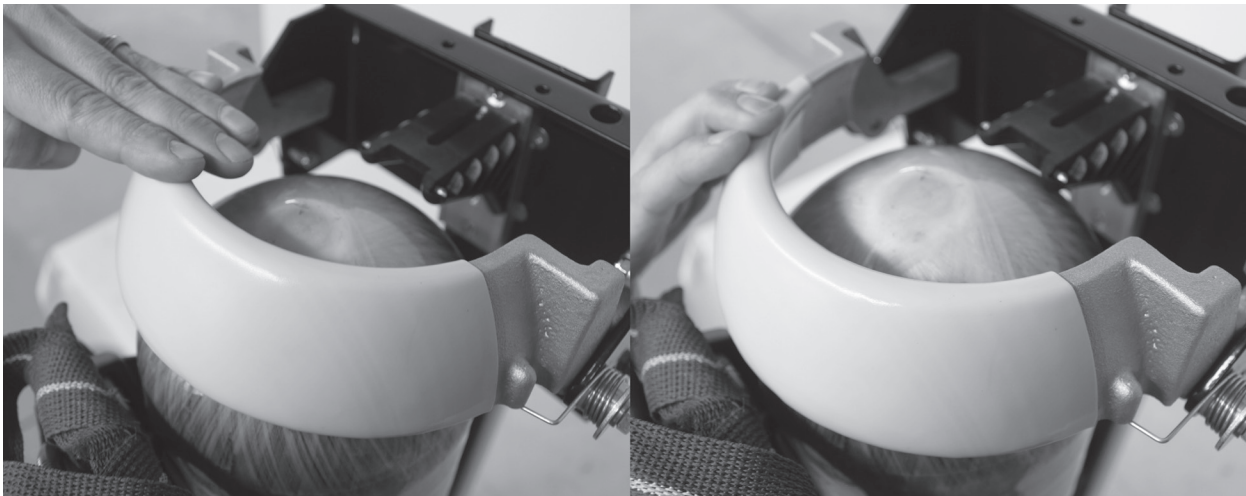

Figure 6
12. Press rearward on the Serrated Latch Stop Pin to open the Top Clamp. Place the air cylinder valve in the Footplate and move the SCBA into the bracket, closing the Top Clamp as the top of the air cylinder passes the front of the Top Clamp (*see Figure 6, below*).